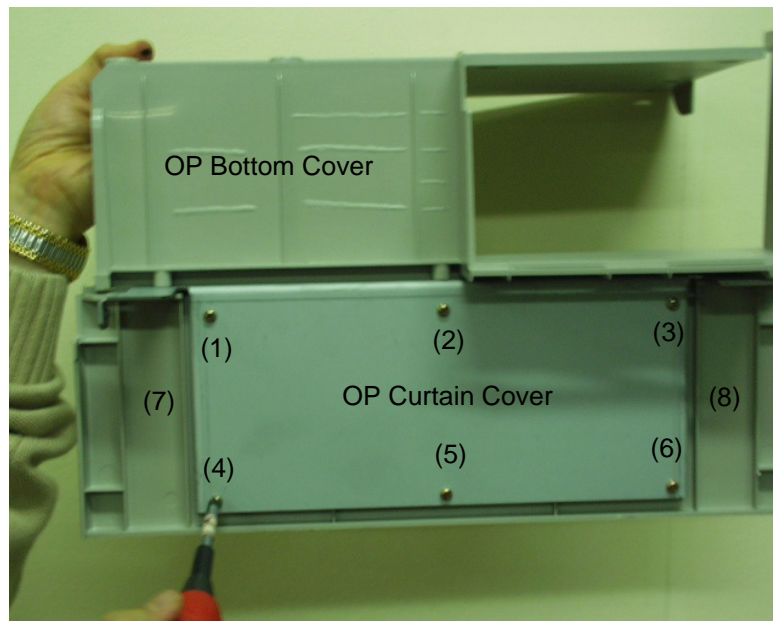

Figure 8-59 Unscrew 6 screws to remove the OP Curtain Cover
- 8.) Unscrew 8 screws from the OP Curtain Cover. Refer to Figure 8-59.